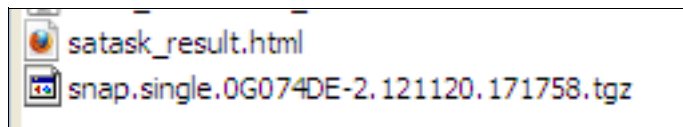

Figure 9-63 Single snap result files on USB stick
5. Remove the USB stick and check the result. The file that is shown in Figure 9-63 should be stored on the stick in its root directory.